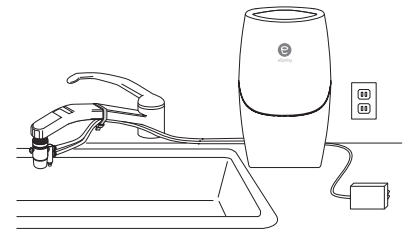

Fig. 10
1. **Position** the eSpring Water Purifier in a desired location where the tubing from the faucet reaches the Water Purifier and the Power Adapter reaches an outlet with continuous power (Fig. 10).